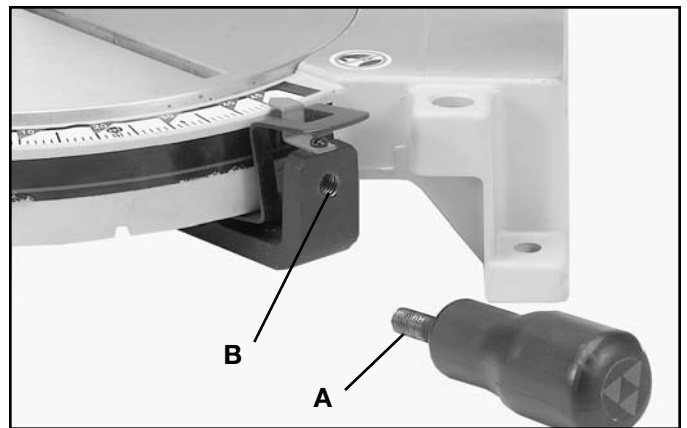

Fig. 5
1. Thread table lock handle (A) Fig. 5, into the threaded hole (B) of the arm bracket.